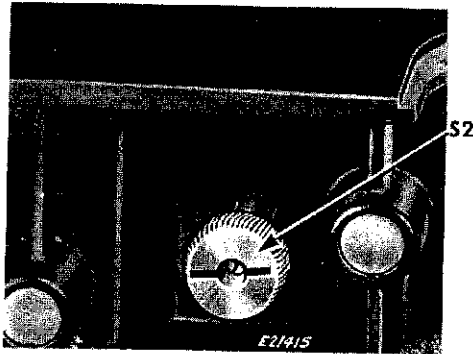

Fig. 16. Regulating Feed Throw-Out Thumb Screw
4. Turn feed throw-out thumb screw S2, Fig. 16 clockwise (inwardly), using a screwdriver if necessary, until it is securely tightened